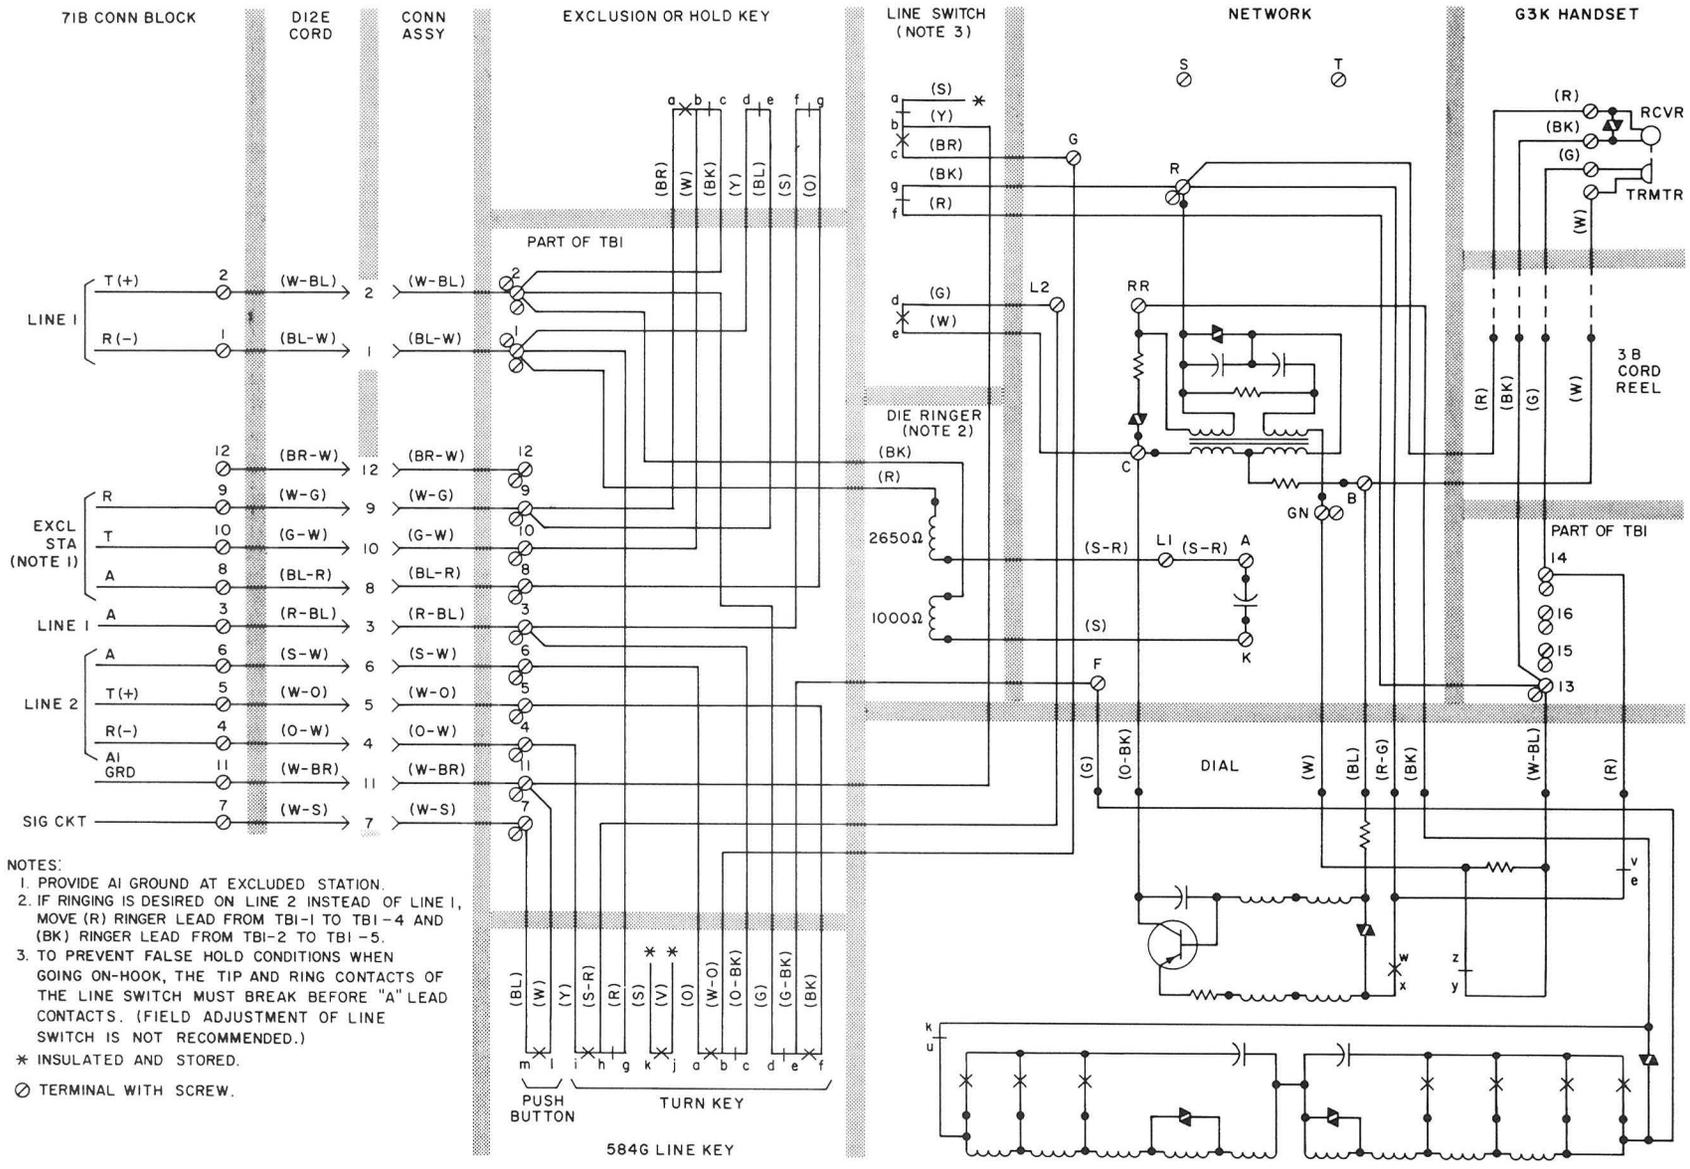

Fig. 4—2751C-58 (MD) or 2751D-60 (MD) Telephone Set Connections (Factory Wired)
5.01 Refer to Fig. 4 and 7 for connection information.